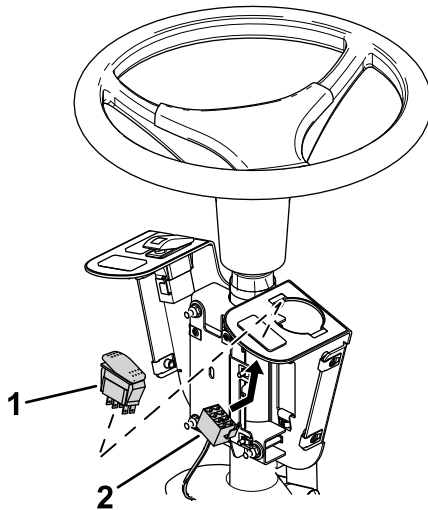

Figure 8
10. Remove the hole plug and install the beacon switch with the raised end facing up (Figure 8).
11. Connect the beacon connector to the switch (Figure 8).